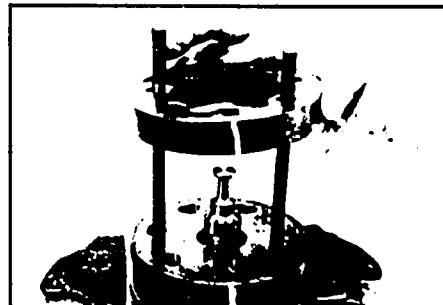

Figure 70
1. Place stator (8B) onto wear plate (9) with seal ring (4) side down, after following Torqmotor assembly procedures 1 through 13. Be sure the seal ring is in place. SEE FIGURE 70.
2. If assembly alignment studs are not being utilized, align stator bolt holes with wear plate and housing bolt holes and turn two bolts (1) finger tight into bolt holes approximately 180 degrees apart to retain stator and wear plate stationary.